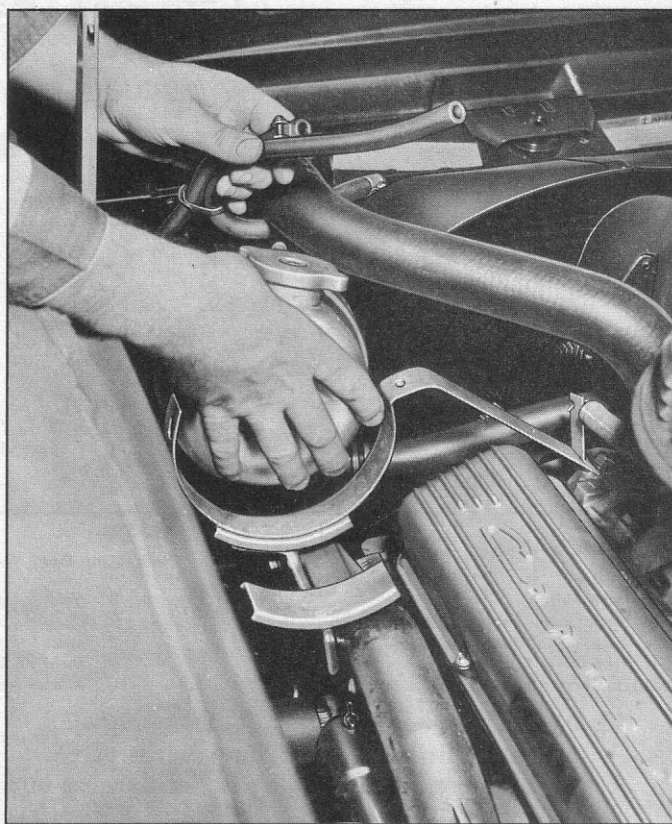

Fig. 11—Radiator Reservoir Removal
8. Disconnect radiator reservoir top hoses, remove reservoir and swing out of the way (fig. 11).